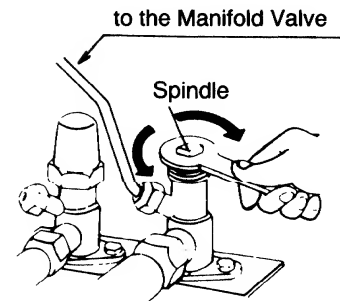

Fig. 11
- e) **Remove the cap from the wide pipe service valve and turn the spindle gradually until it is back seated. Fig. 11.**